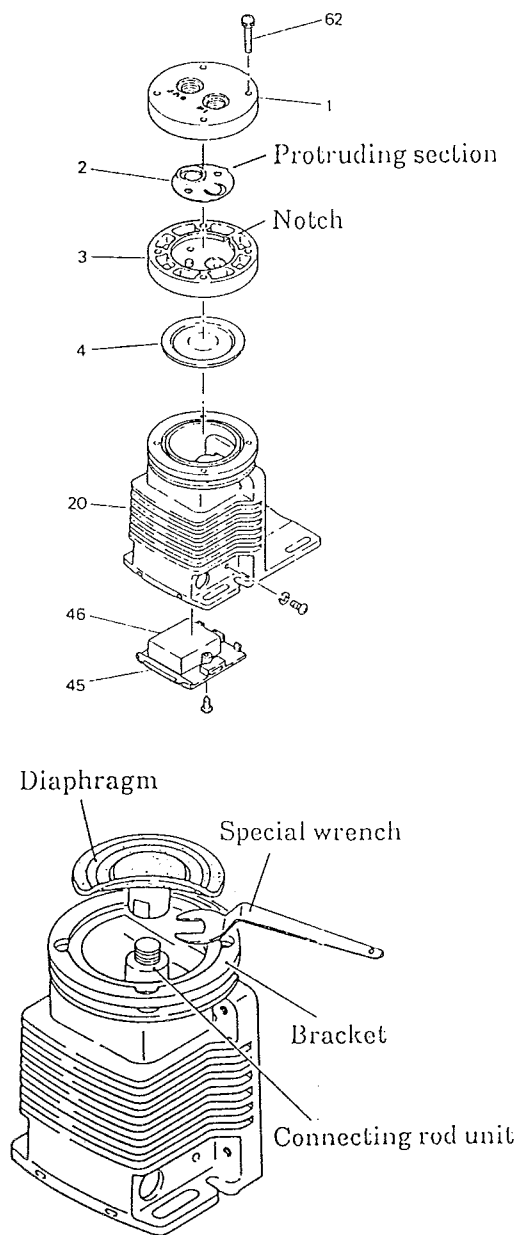

Fig.1
- ① Remove the four machine screws and take off the pump head, lead valve, and valve seat.
- ② The diaphragm (4) is screwed into the connecting rod unit (19). Insert the attached special wrench under the diaphragm (4), as shown in Figure 1, and rotate it counterclockwise so that the diaphragm can be removed.
- ③ Place a new diaphragm (4) and use the special wrench to fix it firmly into the connecting rod unit.
- ① As in the replacement of the diaphragm, remove the machine screws so that the pump head, lead valve, and pump unit can be taken off.